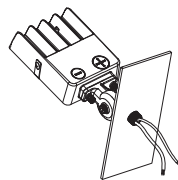

figure 1.5
- Step 3: Loosen the screws. Adjust the fixture angle as per actual demands and then tighten the screws. (Pass the bracket through mounting surface, fix it with screws, then make appropriate wiring); (figure 1.5)